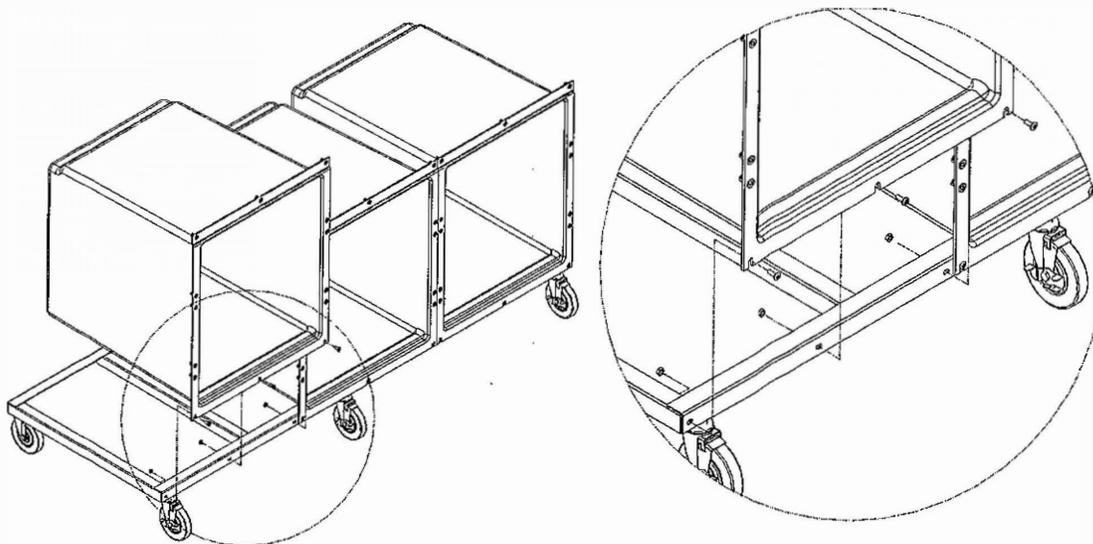

Figure 15
1. Beginning on left or right side of platform, place one 24" kennel (725.2430.XX) on platform assembly and line up holes on the bottom of kennel with slots in platform as indicated in Figure 15.